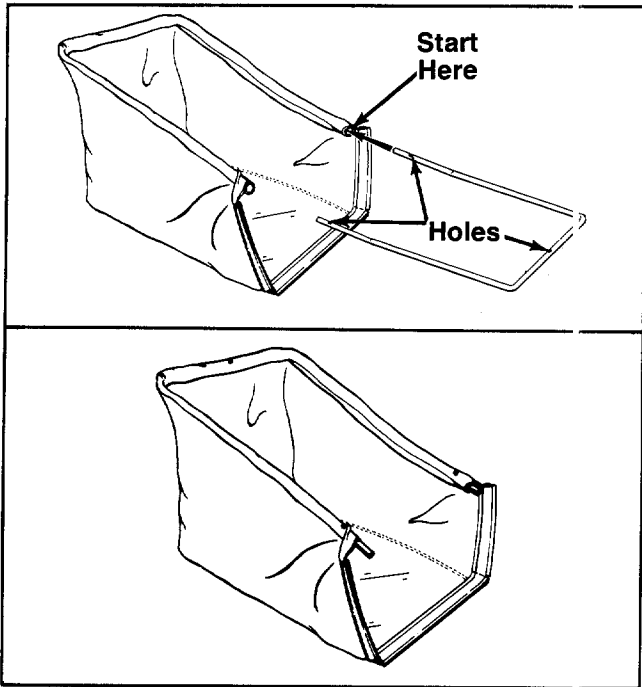

FIGURE 13.
1. There are three holes in the rear frame. With the holes on the upper side as shown in figure 13, insert one end of the rear frame into the cloth channel on the edge of the grass catcher bag. Feed all the material on one side of the frame before working it around the frame. See figure 13.